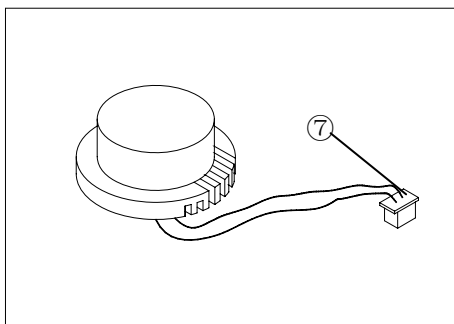

Fig.14
1. Generally, the LED has long service life and is not easy to damage, if unfortunately it damaged, purchase a new one from the supplier.(Fig.14)
2. Take the base plate③ down from the bottom side of the microscope base with screw driver, loose the bolt ④ to take the old LED off, pull out the other end of LED wire from the breadboard⑥,replace the old LED with a new one .
3. Put the new LED unit back onto the bracket with the bolt④ and insert the end of LED wire onto the breadboard⑥.
4. Install the base plate③ back onto the bottom side of the microscope with original bolts.